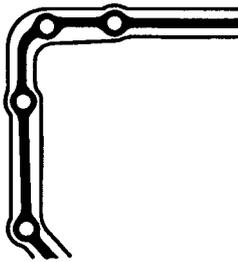

Fig.2 Applying sealant
3. Apply RTV sealant to the raised section of the sump mating face and around the bolt holes as shown in fig.2.